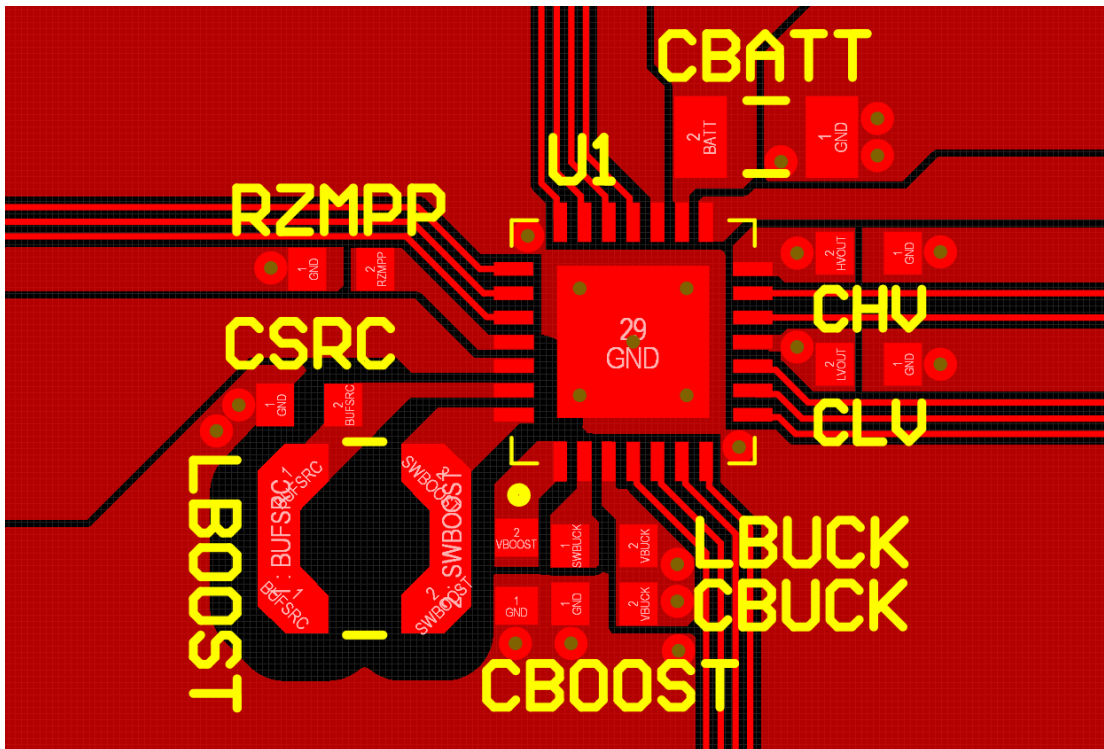

Figure 25: Layout example for the AEM30940 and its passive components
- The switching nodes (**SWBOOST** and **SWBUCK**) must be kept as short as possible, with minimal track resistance and minimal track capacitance. Low resistance is obtained by keeping track length as short as possible and track width as large as possible between these switching nodes and the AEM30940 pins. Minimal capacitance is obtained by maintaining a large distance between the switching nodes and other signals. We recommend removing the ground plane, the power plane and the bottom layer ground pour under **LBOOST** and **LBUCK** footprints, as well as adding distance between **BUFSRC/SWBOOST** and the top ground pour, as shown in Figure 25.
- The **GND** return path between the decoupling capacitors and the AEM30940 thermal pad, which is the AEM30940 main **GND** connection, must be as direct and short as possible. This is preferably done on the top layer when possible, otherwise by internal/bottom plane, using low resistance vias to decrease layer-to-layer connection resistance. In Figure 25, this **GND** return path is done on an internal plane.